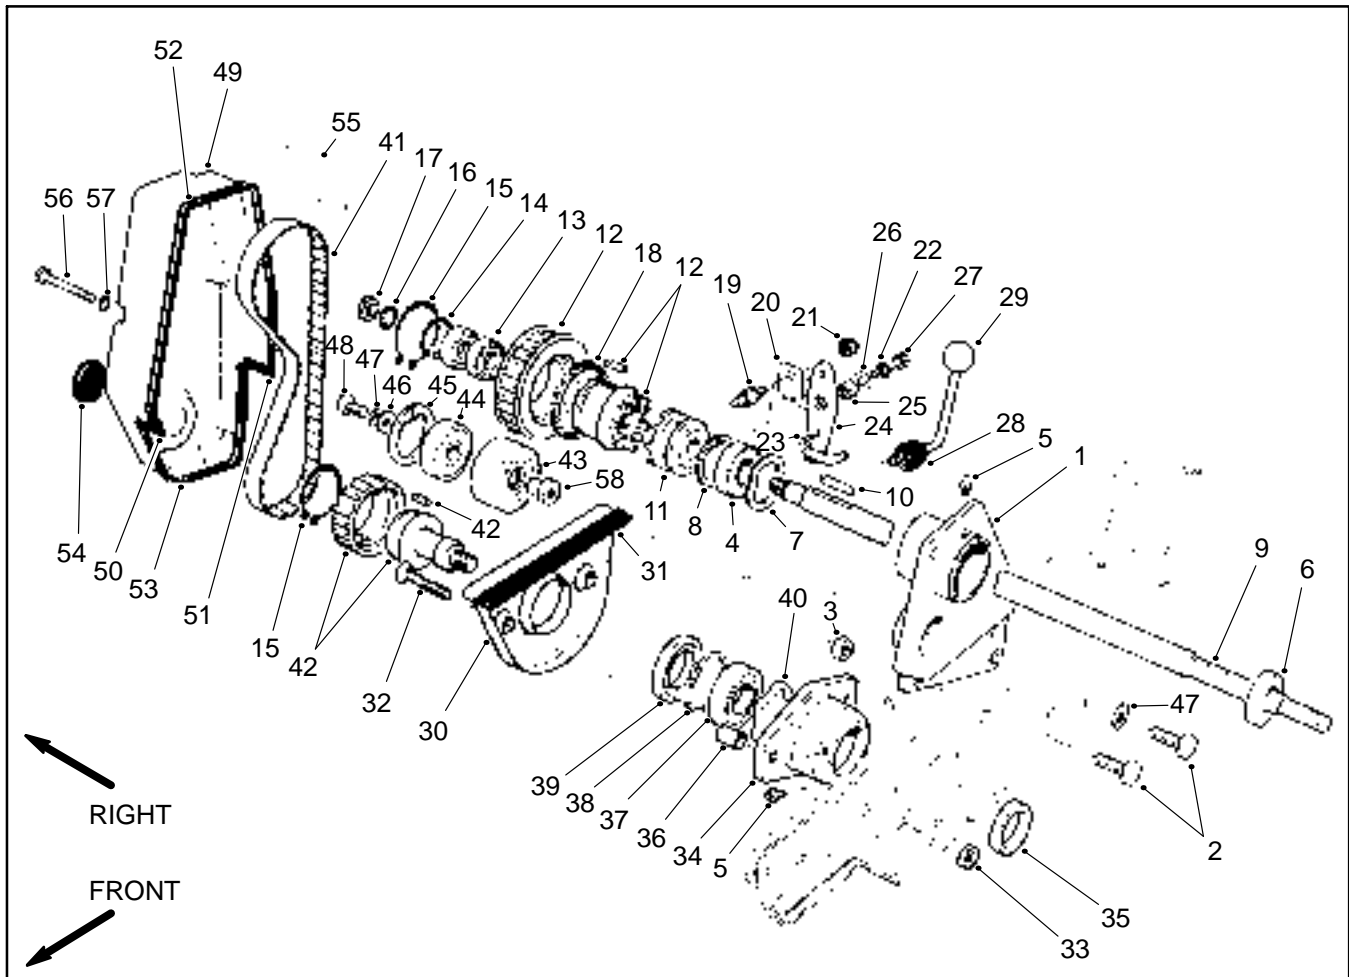
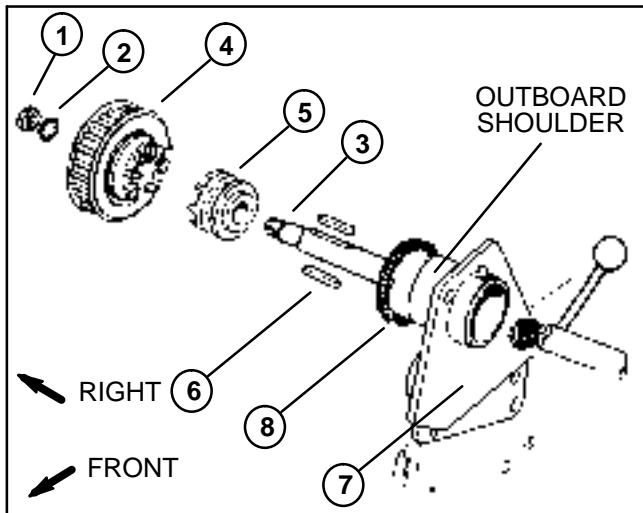

Figure 11
Figure 14
2. Remove cap screws (56), washers (57) and reel drive cover (49) to expose reel drive belt (41) (Fig. 11).
4. Loosen cap screw (2) securing the pulley support spacer (58) (Fig. 11).
2. Remove cap screw (2) and lock washer (47) from the pulley support spacer (58). Remove idler pulley assembly from the clutch housing (Fig. 11).
2. Position cap screw (2) with lock washer (47) into the clutch housing (1). Start cap screw into pulley support spacer (58) of the idler assembly until lock washer just starts to compress. **Do not over tighten (Fig. 11).**
2. Remove clutch lever (24) as follows (Fig. 11):
- A. Remove cap screw (27), lock washer (22), belle-ville washer (26), and spacer (25) from the clutch housing (1). Remove detent spring (20).
- B. Work clutch boot (28) from the clutch housing. Pull clutch lever from the clutch housing.
- C. Replace actuator pin (19) if necessary. Torque lock nut (21) from 45 to 60 in-lb (52 to 69 kg-cm).
3. Remove jam nut and lock washer from the power shaft. Pull clutch and pulley assembly from the shaft. Slide clutch jaw driver off the power shaft being careful not to lose the keys (Fig. 14).
**IMPORTANT: Make sure both keys are removed from the power shaft prior to removing the clutch housing (Fig. 14).**
4. Remove both cap screws (2) and lock nuts (3) securing the clutch housing (1) to the frame (Fig. 11). Slide clutch housing off the power shaft and away from the frame (Fig. 14).
### Clutch Housing Disassembly (Fig. 11)
### Clutch Housing Assembly (Fig. 11)
2. If the felt seal is damaged or worn, replace seal as follows (Fig. 14):
5. Tap both keys into the keyways of the power shaft. Apply Never Seize to the area of the keys and bearing journal of the clutch jaw driver (Fig. 14).
6. Place clutch jaw driver on the shaft with the jaws facing out. Align slots in the clutch jaw driver with the keys and slide into position (Fig. 14).
7. Place clutch and pulley assembly on the power shaft with the jaws facing the clutch jaw driver. Secure assembly to the shaft with the lock washer and jam nut (Fig. 14).
C. With the actuator pin engaging in the groove of the clutch jaw driver (slide driver all the way into the housing), secure cap screw into the clutch housing (Fig. 14).